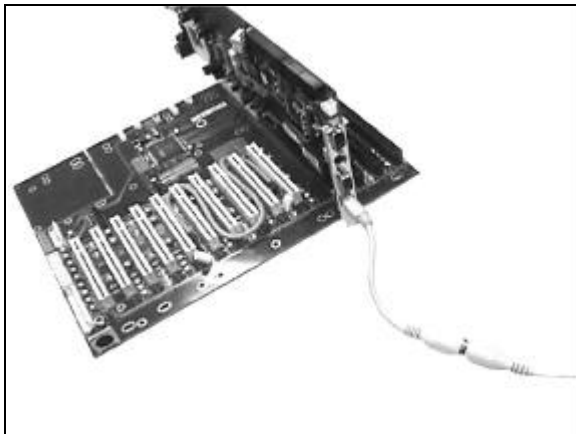

Fig. 7
2. If you use a PS/2 keyboard, simply apply them over the PS/2 connector on your SBC. In this application, the 5-pin keyboard control connector is not required (**Fig. 7**).